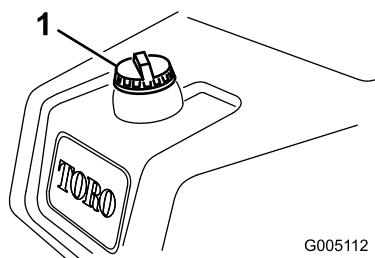

Figure 29
1. Clean around the fuel tank cap and remove it (Figure 29).